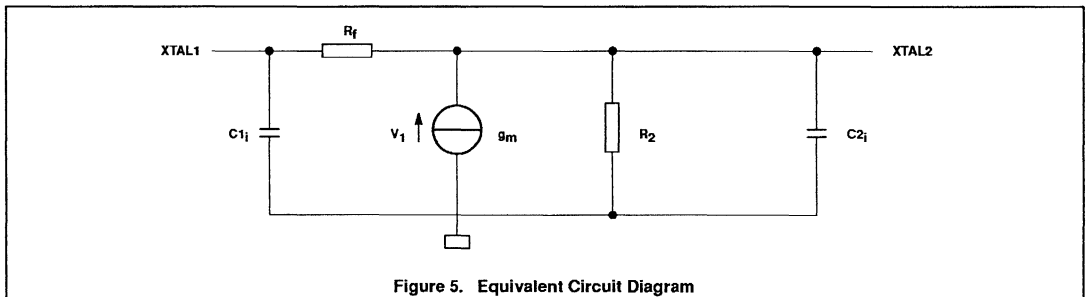

Figure 5. Equivalent Circuit Diagram
**Table 3. Oscillator Equivalent Circuit Parameters (see Figure 5)**